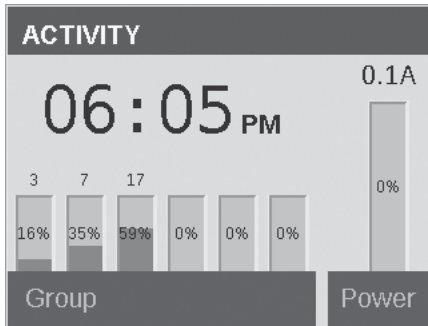

Figure 2: Activity Screenshot
- All currently running groups with their intensity level. Three groups are shown in Figure 2, with a maximum of six groups viewable at any given time. Turn the clickable scroll wheel to show additional groups if more than six are in operation.